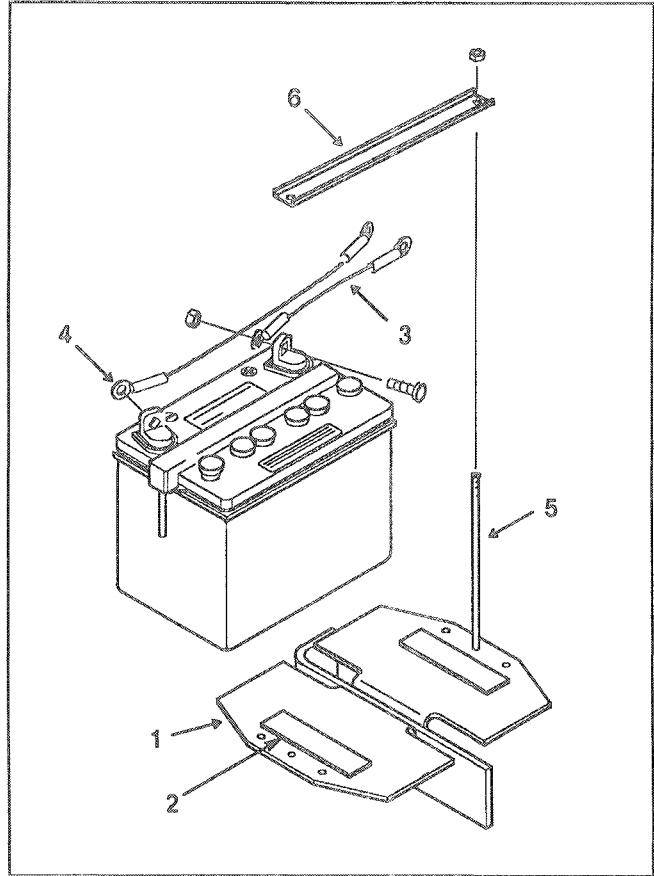

Figure 14
4. Position battery onto holder with terminal posts toward engine (Fig. 14).
6. Mount battery to holders with (2) battery support rods, battery strap and (2) lock nuts.